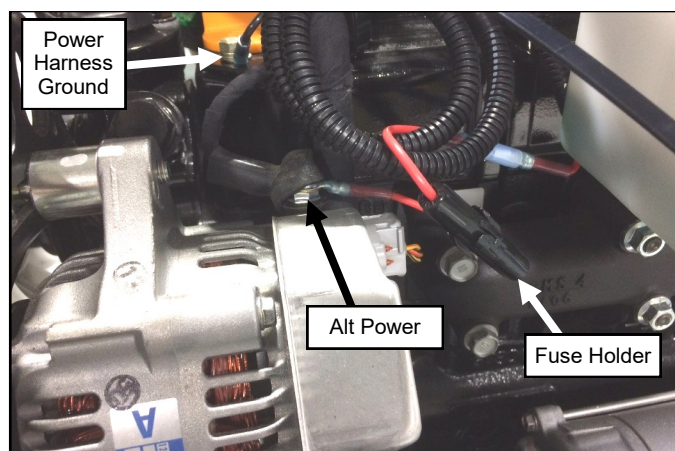

Fig. 10.5 (Power Harness Connections)
- 10.5** Locate the fuse harness (WH-GF) and connect the fuse harness to the main power harness via the bullet connectors. See Figure 10.5.
- 10.6** Install the ring terminal of the main power wire harness to the vehicle's engine. Coil the slack in the power harness and secure with a wire tie. See Figure 10.5. Double check that the wires are not pinched or near sharp or hot surfaces.